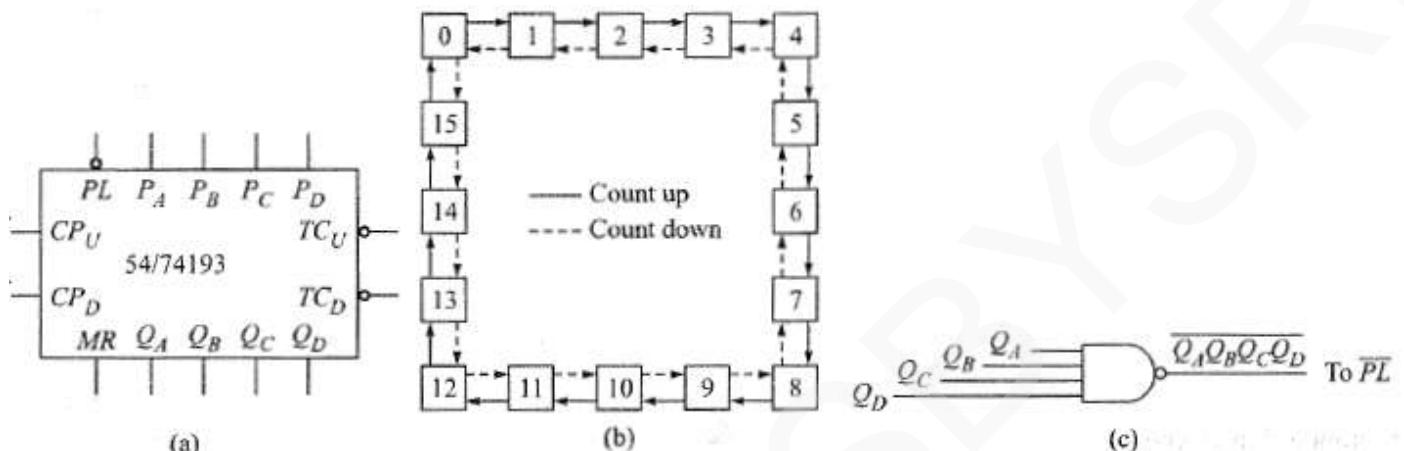

Figure 10.29: 4-bit binary counter (presetable)
- 74193 is a 4-bit synchronous up-down binary counter (Figure 10.29).